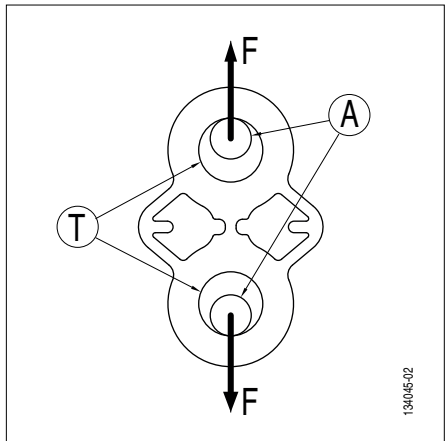

Fig. 2
A full range of TA test plates has been developed in order to test anchor points in traction. The plate fastening holes (fig. 2, page 9, item T) are designed to receive high-strength bow shackles.
- Loading of the TA test plate (fig. 2).